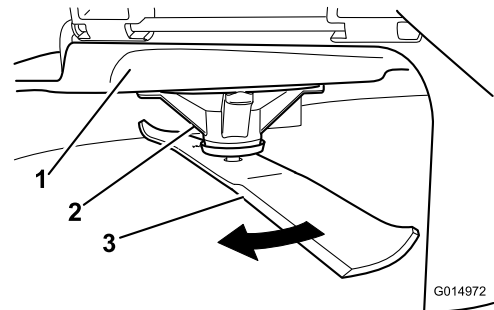

Figure 73
2. While wearing thickly padded gloves, or other adequate hand protection, slowly rotate the blade into a position that allows you to measure the distance between the cutting edge and the level surface the machine is on (Figure 73).